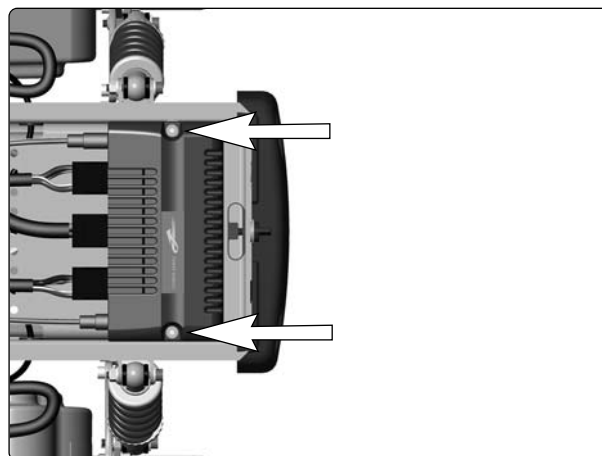

Fig. 65. The Pilot+ controller is attached with two screws.
5. Remove the Pilot+ controller by removing its two attachment screws; see figure 65.